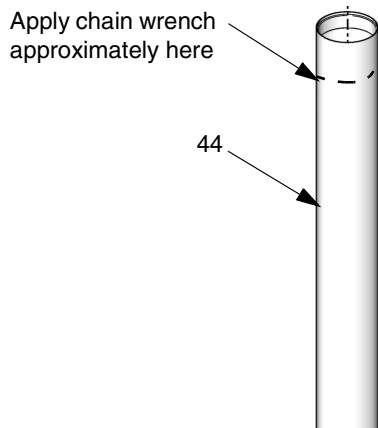
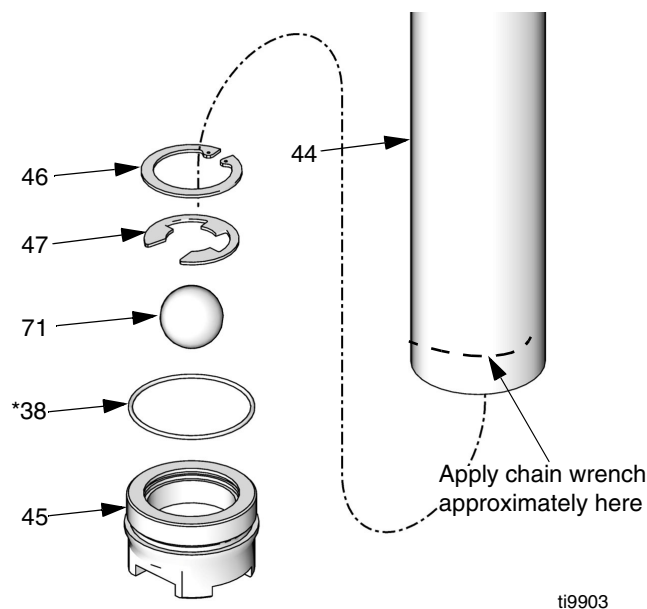

FIG. 16
FIG. 17
1. Use a chain wrench near the top of the suction tube at the point indicated in FIG. 16, and a wrench on the flats of the foot valve (45) to loosen the foot valve from the suction tube (44). To prevent damage to the suction tube, do not remove the foot valve until instructed to do so in step 3.
**NOTE:** When removing the suction tube, be very careful not to bend, dent, or damage it. To avoid damage, use the chain wrench only at the top and bottom of the suction tube as indicated in FIG. 16 and FIG. 17. Do not apply the wrench to the middle of the suction tube.
2. With the foot valve still in place to support the suction tube, use a chain wrench near the bottom of the suction tube at the point indicated in FIG. 17, to loosen the suction tube (44) from the pump body (34).
3. Remove the foot valve assembly from the suction tube (44).
4. Remove retaining ring (46), snap ring (47), ball (71), and o-ring (38\*) from foot valve (45). Inspect all parts for damage. See FIG. 17.